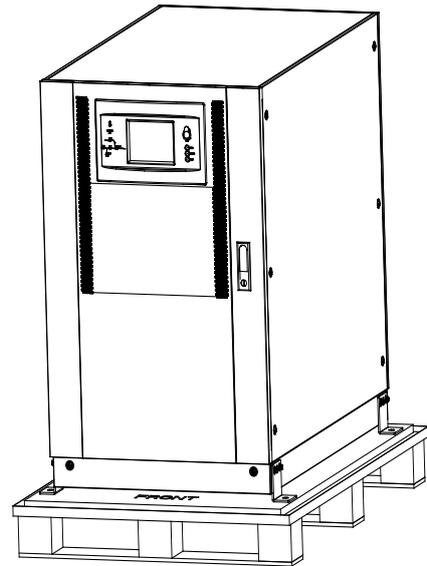

Fig. 13. Remove the protective foam
4. Remove the protective foam around the cabinet (See Fig.13).